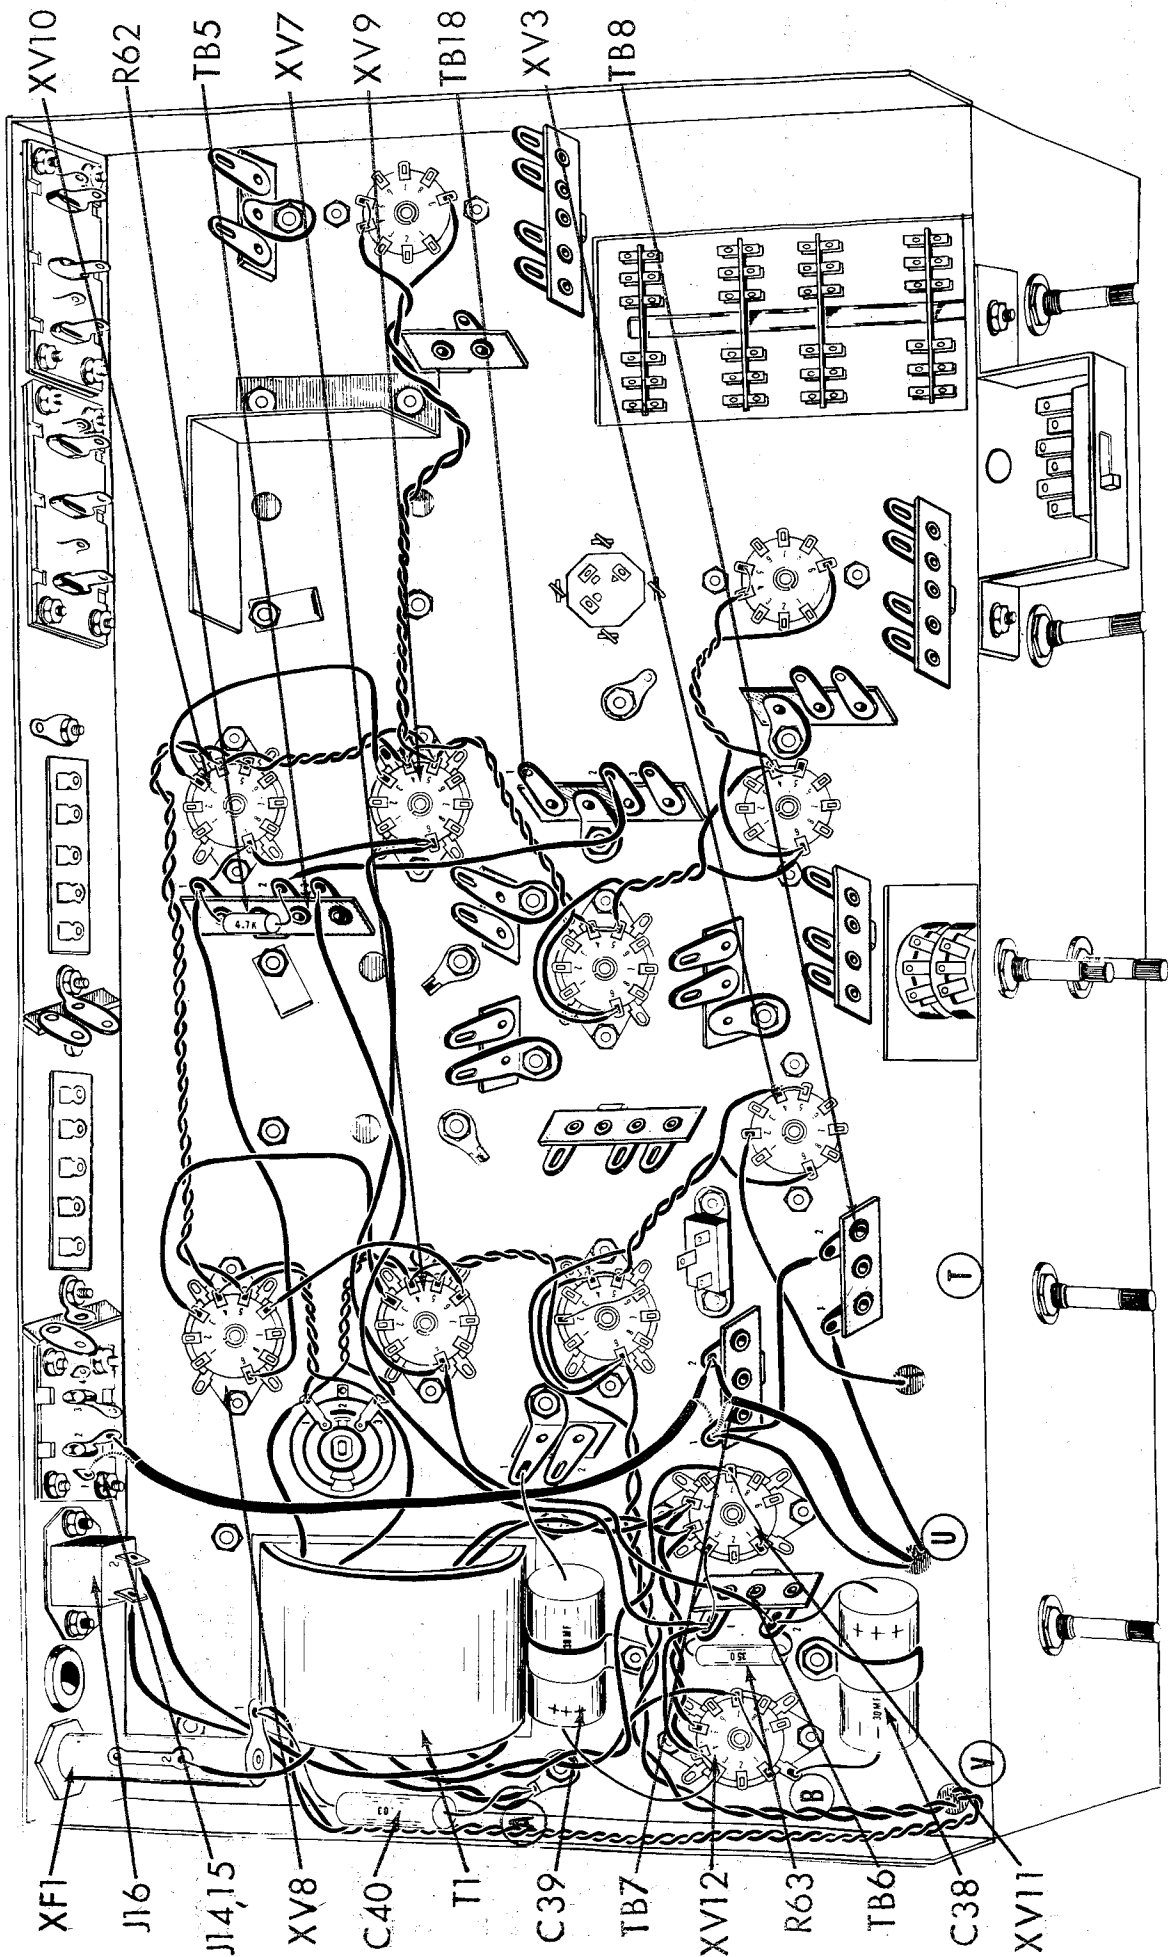

Fig. 7
1. (✓) Fig. 7. From the power transformer, T1, connect the red-yellow and white leads to ground lug "A" (C) at the power transformer.
2. (✓) Fig. 7. From the power transformer, T1, twist the two red leads and run along the chassis as shown. Connect one red lead to XV12-7 (C) and the other red lead to XV11-7 (C).
3. (✓) Fig. 7. Connect a 1" piece of bare wire from XV11-1 (S1) to XV11-7 (S2).
4. (✓) Fig. 7. Connect a 1" piece of bare wire from XV12-1 (S1) to XV12-7 (S2).
5. (✓) Fig. 7. Run the twisted pair of grey and black leads from hole "V" along the chassis as shown. Connect the grey lead to XFI-1 (C) and the black lead to J16-1 (C).
6. (✓) Fig. 7. Cut both leads on a .03mfd molded capacitor, C40, to 1" and cover each with a 3/4" piece of spaghetti. Connect one lead to XFI-1 (S2) and the other lead to ground lug "A" (S3). Be careful not to burn the leads running near ground lug "A".
7. (✓) Fig. 7. From the power transformer T1, connect the black lead (nearest ground lug "A") to J16-2 (C).
8. (✓) Fig. 7. Connect remaining black lead on power transformer, T1, to XFI-2 (S1).
9. (✓) Fig. 7. Connect the 350 Ω , 10 watt resistor, R63, from TB6-1 (C) to TB6-2 (C). Cut both leads to 1 1/4" and cover each with a 1" piece of spaghetti.
10. (✓) Fig. 7. Cut both leads on the 30mfd electrolytic capacitor, C38, to 1 1/2". Cover the positive (+) lead with 1 1/4" piece of spaghetti and connect to TB6-2 (C). Connect the negative lead to ground lug "B" (S1) on XV12.
11. (✓) Fig. 7. Connect a 1/2" piece of bare wire from XV12-3 (C) to XV12-4 (C).
12. (✓) Fig. 7. Connect a 3" piece of red wire from XV12-4 (S3) to TB6-1 (C).
13. (✓) Fig. 7. Cut the positive (+) lead on the 30mfd electrolytic capacitor, C39, to 1 1/2". Cover with a 1 1/4" piece of spaghetti and connect to XV12-3 (S2). The other lead will be connected later.
14. (✓) Fig. 7. Connect a 6" piece of orange wire from TB6-2 (S3) to XV7-9 (C).
15. (✓) Fig. 7. Connect a 3/4" piece of bare wire from TB6-1 (C) to XV11-3 (S1).
16. (✓) Fig. 7. Connect a 7" piece of orange wire from XV7-9 (S2) to XV9-9 (C).
17. (✓) Fig. 7. Connect a 6" piece of orange wire from XV8-9 (S1) to TB5-1 (C).
18. (✓) Fig. 7. Connect a 3" piece of orange wire from XV10-9 (C) to XV9-9 (S2).
19. (✓) Fig. 7. Connect a 1" piece of bare wire from TB5-1 (C) to XV10-9 (S2).
20. (✓) Fig. 7. Connect a 4 1/2" piece of orange wire from TB5-2 (C) to TB18-2 (C).
21. (✓) Fig. 7. Cut both leads on a 4.7K Ω (yellow, violet, red, silver) 2 watt resistor, R62, to 3/4". Connect from TB5-1 (S3) to TB5-2 (S2).
22. (✓) Fig. 7. Connect a 3 1/2" piece of yellow wire from XV8-3 (C) to XV7-3 (C).
23. (✓) Fig. 7. Connect a 3 1/2" piece of yellow wire from XV10-3 (C) to XV9-3 (C).
24. (✓) Fig. 7. Connect an 8 1/2" piece of red wire from TB5-3 (C) to TB6-1 (S4).
25. (✓) Fig. 7. Connect the black wire from hole "U" to TB7-1 (C).
26. (✓) Fig. 7. Connect the green wire from hole "T" to XV3-2 (S1).
27. (✓) Fig. 7. Connect the yellow wire from hole "U" to TB8-1 (C).
28. (✓) Fig. 7. Connect a 3 1/2" piece of black wire from TB7-1 (C) to TB8-2 (C).
29. (✓) Fig. 7. Connect the outer shield from the single conductor shielded cable (from hole "U") to TB7-1 (C) and the inner conductor of the same cable to TB7-2 (C).
30. (✓) Fig. 7. Strip back the outer insulation 3/4" from one end of a 8" piece of single conductor shielded cable. Twist the shield strands together. Strip the insulation on the inner conductor back 1/4". Connect the shield to TB7-1 (C) and the inner conductor to TB7-2 (C). On the other end of the same cable, strip the outer insulation back 1/2". Twist the shield strands together. Strip the insulation on the inner conductor back 1/4". Connect the shield to J14, 15-1 (S1) and the inner conductor to J14, 15-2 (S1).